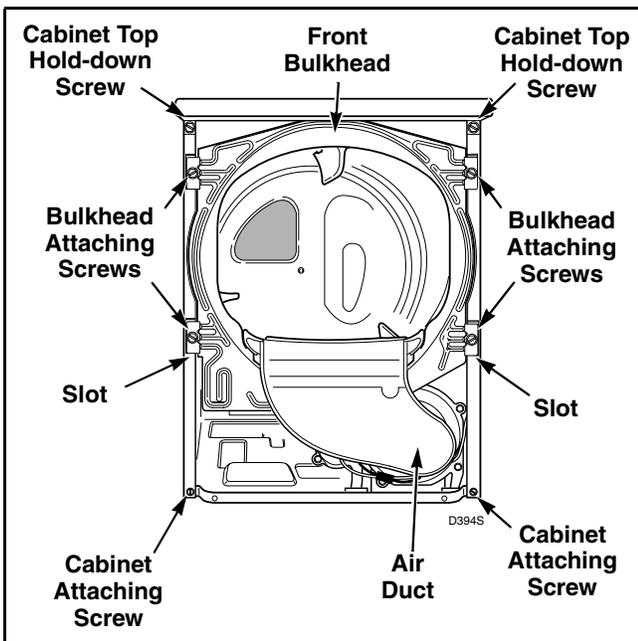

Figure 31
- h. Remove four screws holding bulkhead to front flange of cabinet and lift complete bulkhead assembly out of slots in cabinet. Refer to *Figure 31*.
- f. Remove four screws holding bulkhead to front flange of cabinet. Then, lift complete bulkhead assembly out of slots in cabinet. Refer to *Figure 31*.
- f. Remove four screws holding bulkhead to front flange of cabinet. Then lift complete bulkhead assembly out of slots in cabinet. Refer to *Figure 31*.
- g. Remove two cabinet top hold-down screws. Refer to *Figure 31*.
- e. Remove two cabinet top hold-down screws. Refer to *Figure 31*.
- h. Remove four screws holding bulkhead to front flange of cabinet. Then, lift complete bulkhead assembly out of slots in cabinet. Refer to *Figure 31*.